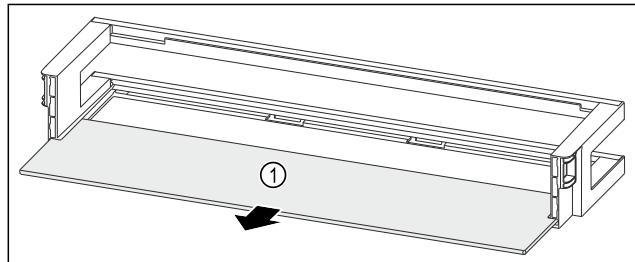

Fig. 82
- Remove the shelf Fig. 82 (1).